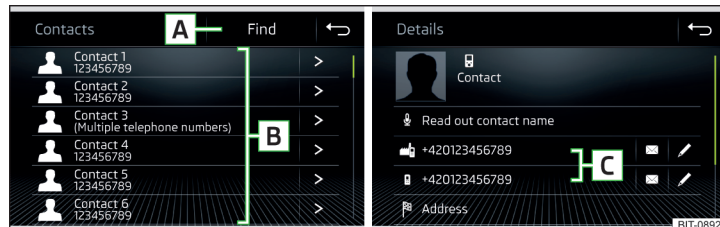

Fig. 154 List of telephone contacts / contact details
- ▶ In the *Telephone* main menu, tap on the function surface and a list of telephone contacts will be displayed » Fig. 154.